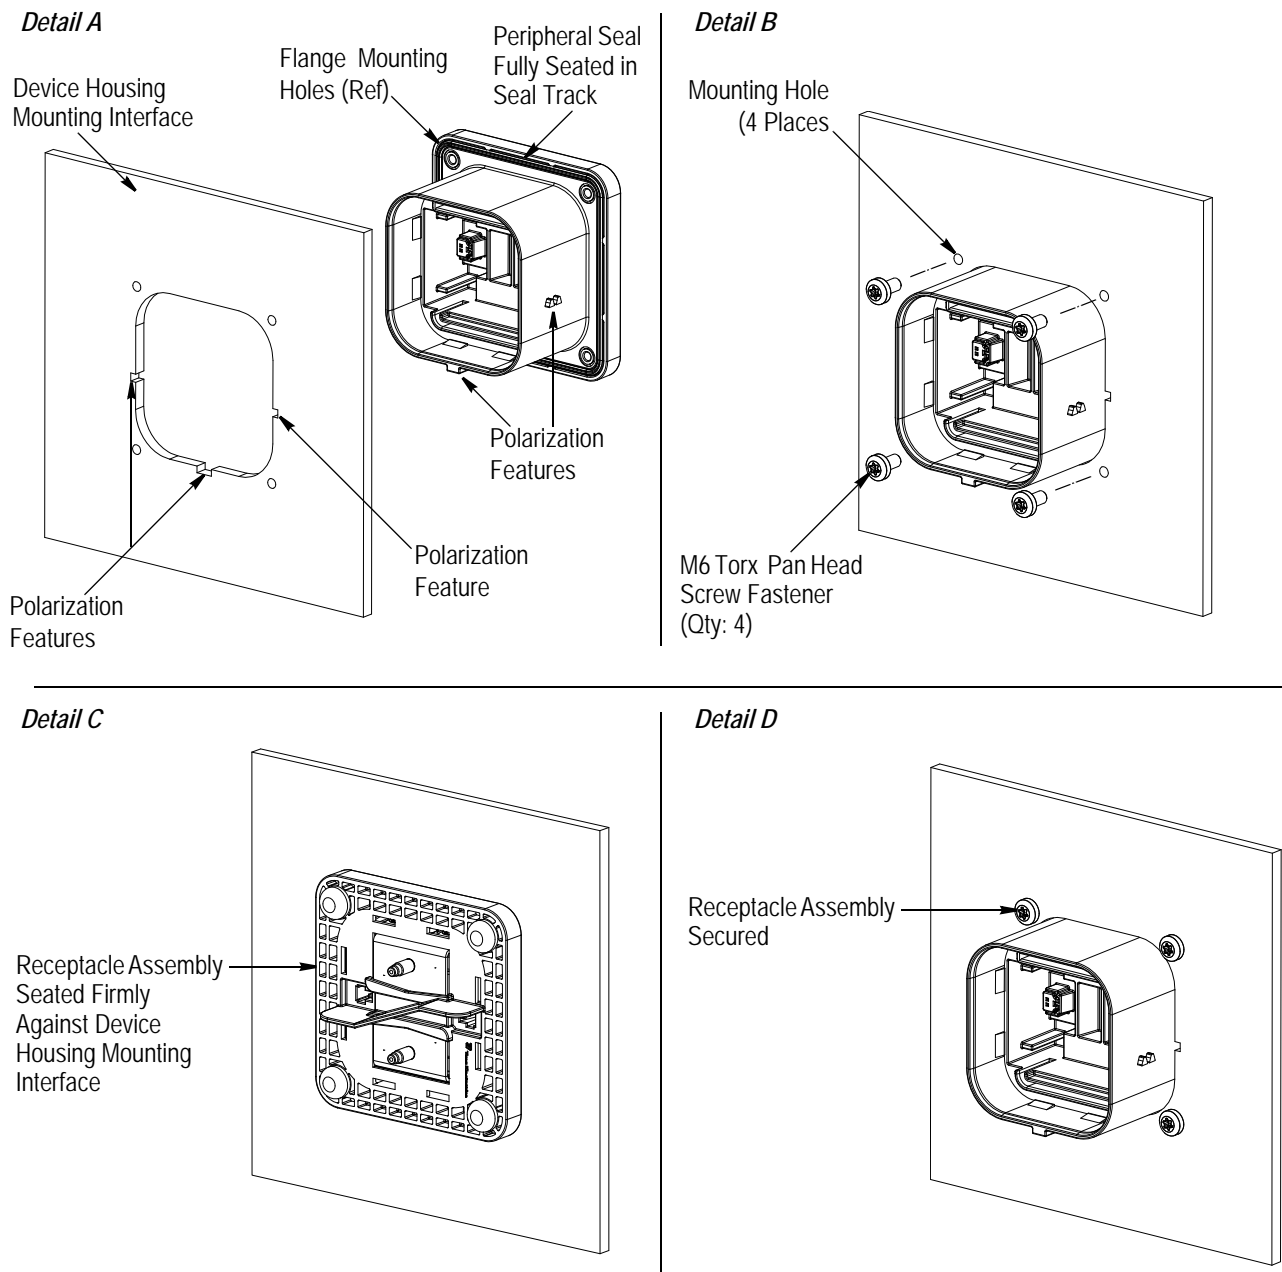

Figure 2
1. Identify the polarization features located on the walls of the receptacle assembly outer housing as shown in Figure 2, Detail A.
Make sure that the peripheral seal is present and fully seated in the seal track of the receptacle assembly outer housing as shown in Figure 2.
2. Line up the polarization features of the receptacle assembly outer housing with the mating polarization slots of the device housing mounting interface as shown in Figure 2, Detail A. Refer to Customer Drawing 1587987 for the mounting interface definition and requirements.
5. Mate the receptacle assembly outer housing to the device housing mounting interface so that the receptacle assembly is bottomed and seated firmly against the mounting interface as shown in Figure 2, Detail B. If the receptacle assembly and mounting interface do not fit together easily, check the following:
6. Secure the receptacle assembly using with four standard M6 Torx pan head screw fasteners and applied threadlocker and/or lock washers through the flange mounting holes as shown in Figure 2, Detail D. Stainless steel fasteners are recommended for this application. Tighten the fasteners to a torque of 10 ± 1 Nm. Ensure that the device side mounting provisions and fasteners are compatible and capable of meeting the required torque value.